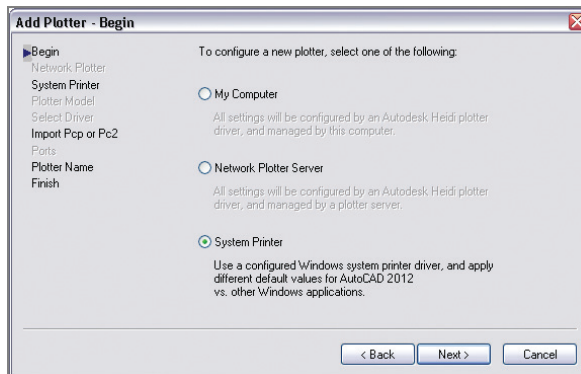

FIGURE 14.2 Selecting the System Printer option in the Add Plotter wizard
3. Select the System Printer radio button (see Figure 14.2) and click Next.